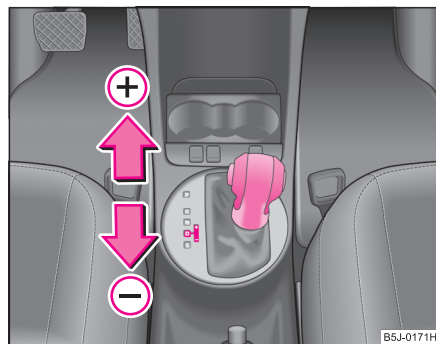

Fig. 96 Selector lever:
- One-touch forward of the selector lever (in the Tiptronic position) ⇒ fig. 96 **+**.